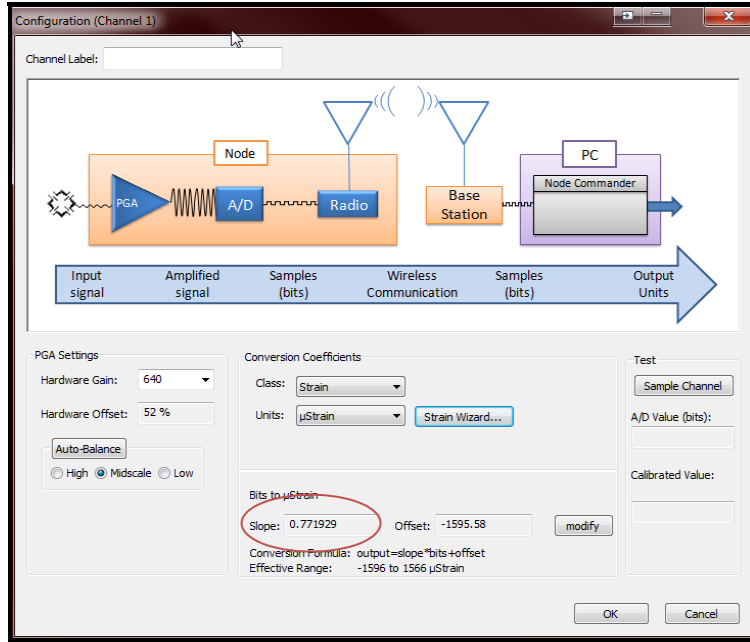

Figure 5 – Channel 1 Configuration screen in Node Commander® software indicating location of slope.
- Note the resulting *slope* on the Channel 1 Configuration screen as shown in *Figure 5*. This slope will be used to create a new value for this field which will be input to yield torque as an output from the SG-Link[®].